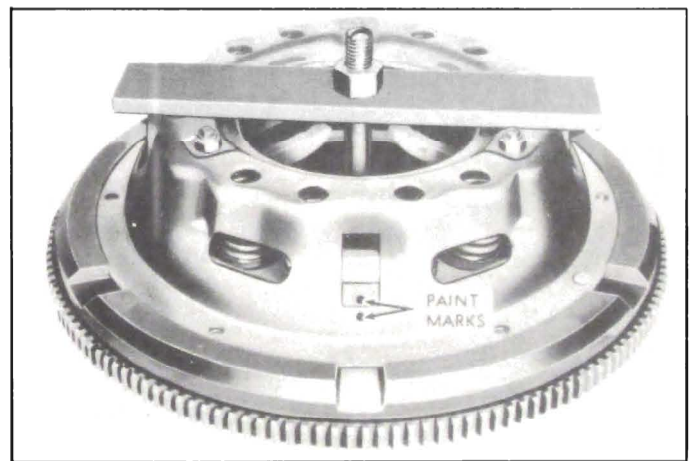

Figure 4-10—Clutch Disassembly—1948 Series 70
1. Mark clutch cover and one driving lug of pressure plate with paint so that parts can be re-assembled in the same relationship to each other in order to preserve engine balance. See figure 4-10.
2. Some form of fixture is required to compress clutch springs while disassembling pressure plate and clutch cover. A simple fixture may be made with a flywheel, bolt with long threads, and a bar as shown in figure 4-10.
3. Place driven plate and pressure plate on fixture used to disassemble clutch. Place clutch spring seats and clutch springs over bosses on pressure plate, then place clutch cover on pressure plate so that marks made at disassembly are aligned and springs are properly located over bosses in cover. See figure 4-10.